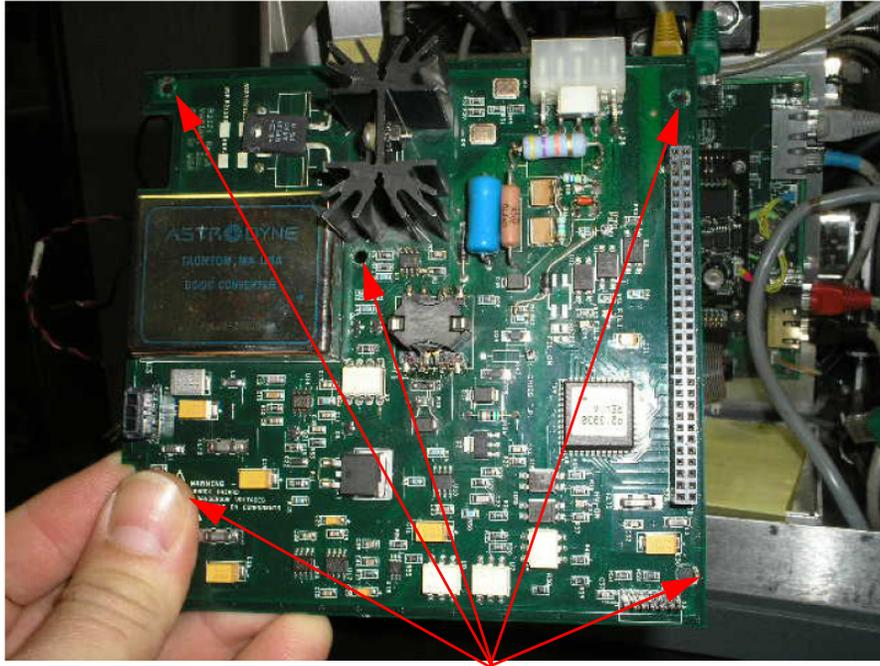

Figure 1-10 Ion Source Board Screws
12. Remove the Ion source board by removing five (5) Phillips screws (Figure 1-10).